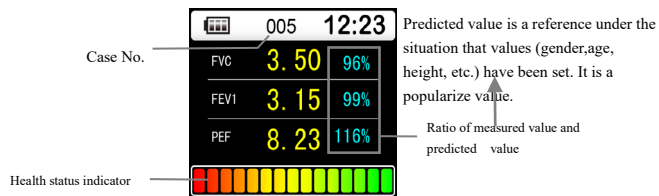

Figure 4 Main parameter interface
- In 【Testing】 interface, breath in fully, seal the lips around the mouthpiece and blast all air out as forcefully as possible in a minimal amount of time, wait for a few seconds, the device will enter 【Main parameter】 interface as shown in Fig.4.
a.Main parameter interface: display the ratio of predicted value and measured value of three main parameters. Ratio reflects health status, correct settings of personal information is the key to obtain accuracy ratio. Besides, this interface can also display battery status, time, case number and health status indicator, as shown in Fig.4.